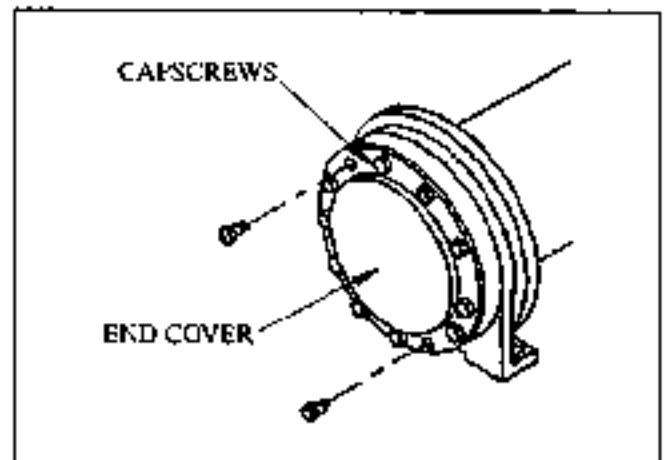

Figure 14
- (13) Remove the twelve cap screws and lift off cover. See Figure 14.